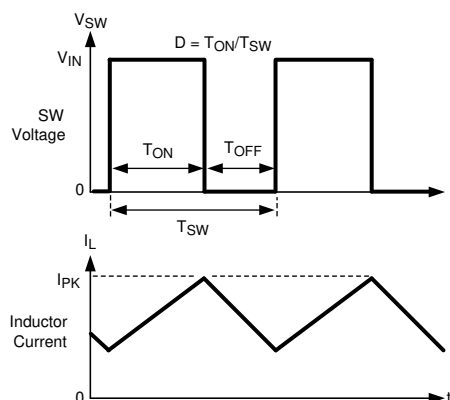

Figure 6-1. LM26420-Q1 Basic Operation of the PWM Comparator
The LM26420-Q1 is a constant frequency dual PWM buck synchronous regulator device that can supply two loads at up to 2 A each. The regulator has a preset switching frequency of 2.2 MHz. This high frequency allows the LM26420-Q1 to operate with small surface mount capacitors and inductors, resulting in a DC/DC converter that requires a minimum amount of board space. The LM26420-Q1 is internally compensated, so LM26420-Q1 is simple to use and requires few external components. The LM26420-Q1 uses current-mode control to regulate the output voltage. The following operating description of the LM26420-Q1 refers to the Section 6.2, which depicts the functional blocks for one of the two channels, and to the waveforms in Figure 6-1. The LM26420-Q1 supplies a regulated output voltage by switching the internal TOP and BOTTOM MOS switches at constant frequency and variable duty cycle. A switching cycle begins at the falling edge of the reset pulse generated by the internal clock. When this pulse goes low, the output control logic turns on the internal TOP switch. During this on-time, the SW pin voltage (V_{SW}) swings up to approximately V_{IN} , and the inductor current (I_L) increases with a linear slope. I_L is measured by the current sense amplifier, which generates an output proportional to the switch current. The sense signal is summed with the corrective ramp of the regulator and compared to the output of the error amplifier, which is proportional to the difference between the feedback voltage and V_{REF} . When the PWM comparator output goes high, the TOP Switch turns off and the BOTTOM switch turns on after a short delay, which is controlled by the Dead-Time-Control Logic, until the next switching cycle begins. During the TOP switch off-time, inductor current discharges through the BOTTOM switch, which forces the SW pin to swing to ground. The regulator loop adjusts the duty cycle (D) to maintain a constant output voltage.